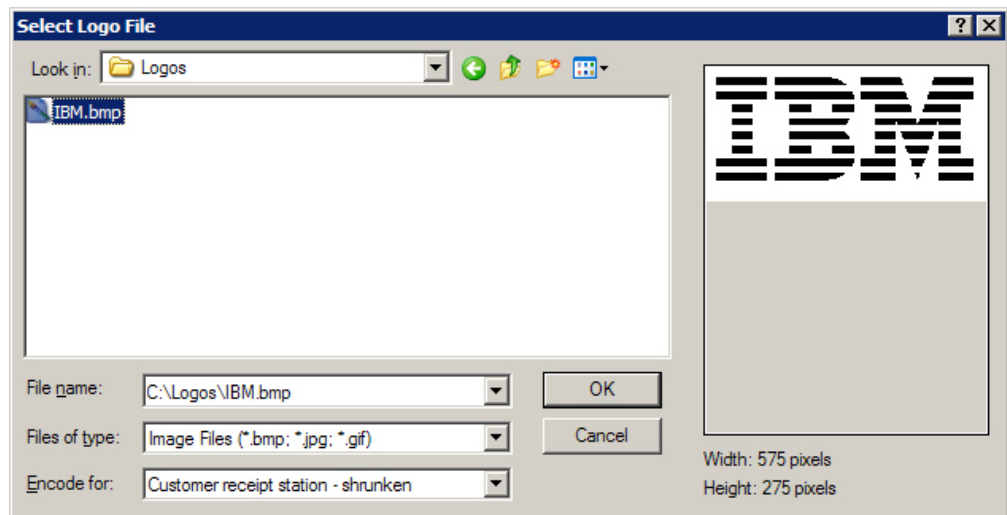

Figure 18. Selecting the logo file
6. Select the logo file (see Figure 18).